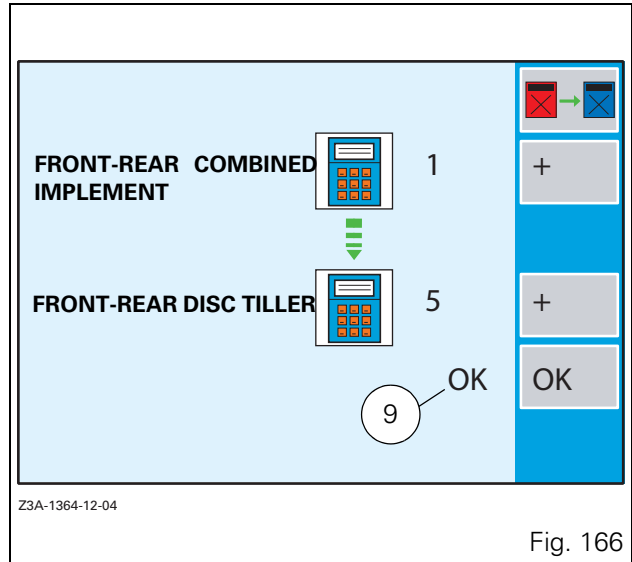

Fig. 166
- Validate by pressing the key <<5. The symbol (OK) is displayed (9 Fig. 166).